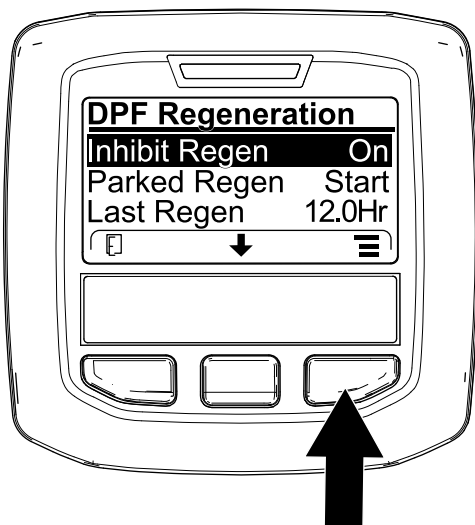
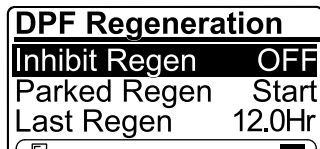

Figure 70
Figure 71
1. Access the DPF Regeneration menu, press the center button to scroll down to the INHIBIT REGEN option, and press the right button to select the Inhibit Regen entry (Figure 70).
2. Press the right button to change the inhibit regeneration setting from On to Off (Figure 70) or from Off to On (Figure 71).